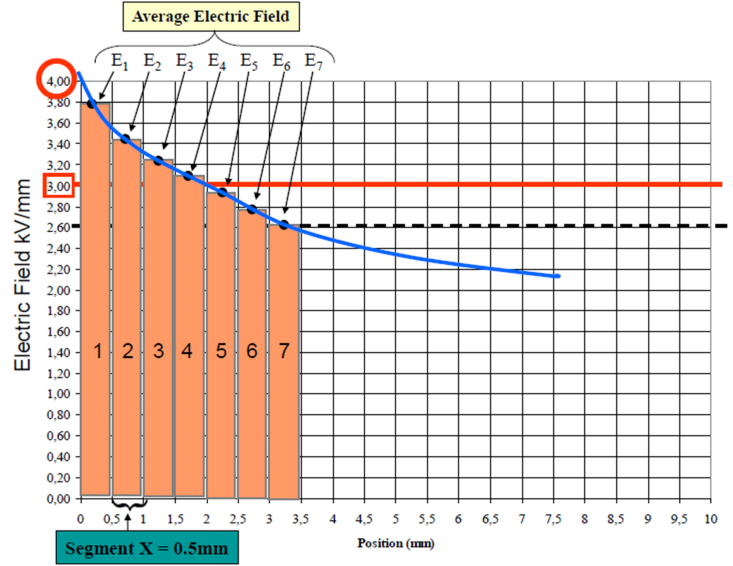

Figure 3: Segmented Electric Field Profile(This diagram was obtained from GD Tutorials 2014)
- (iii) Segment the plot into appropriate slots of as small width as possible. In each segment along the electric field curve, starting from the point of highest electric field, determine the average electric field in each slot. See Figure 3.